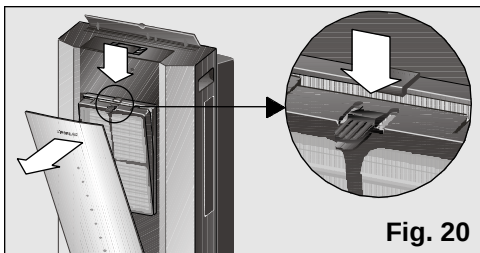

Fig. 20
All models are fitted with a basic filter which needs to be cleaned regularly, **Fig. 19**. The filter is accessed by pressing the tab at the top and removing it from its housing, **Fig. 20**. The filter is cleaned under a cold tap, dried and replaced.
- ☐ Remove the basic filter from the appliance, **Fig. 20**.